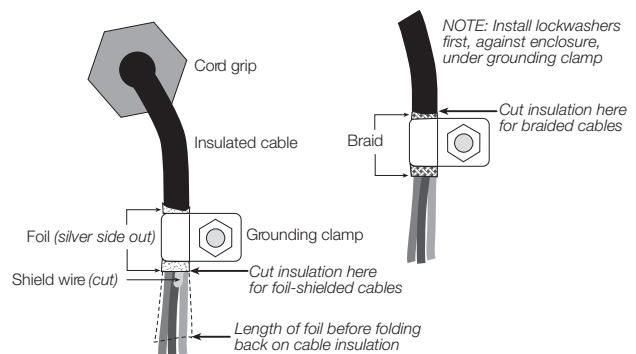

Figure 2-1. Grounding Clamp Attachment for Foil-Shielded and Braided Cabling
- For cables with foil shielding, strip insulation and foil from the cable half an inch (13 mm) past the grounding clamp (see Figure 2-1). Fold the foil shield back on the cable where the cable passes through the clamp. Ensure silver (conductive) side of foil is turned outward for contact with the grounding clamp.
- For cables with braided shielding, strip cable insulation and braided shield from a point just past the grounding clamp. Strip another half inch (13 mm) of insulation *only* to expose the braid where the cable passes through the clamp (see Figure 2-1).
- Route stripped cables through cord grips and clamps. Ensure shields contact grounding clamps as shown in Figure 2-1. Tighten grounding clamp nuts.